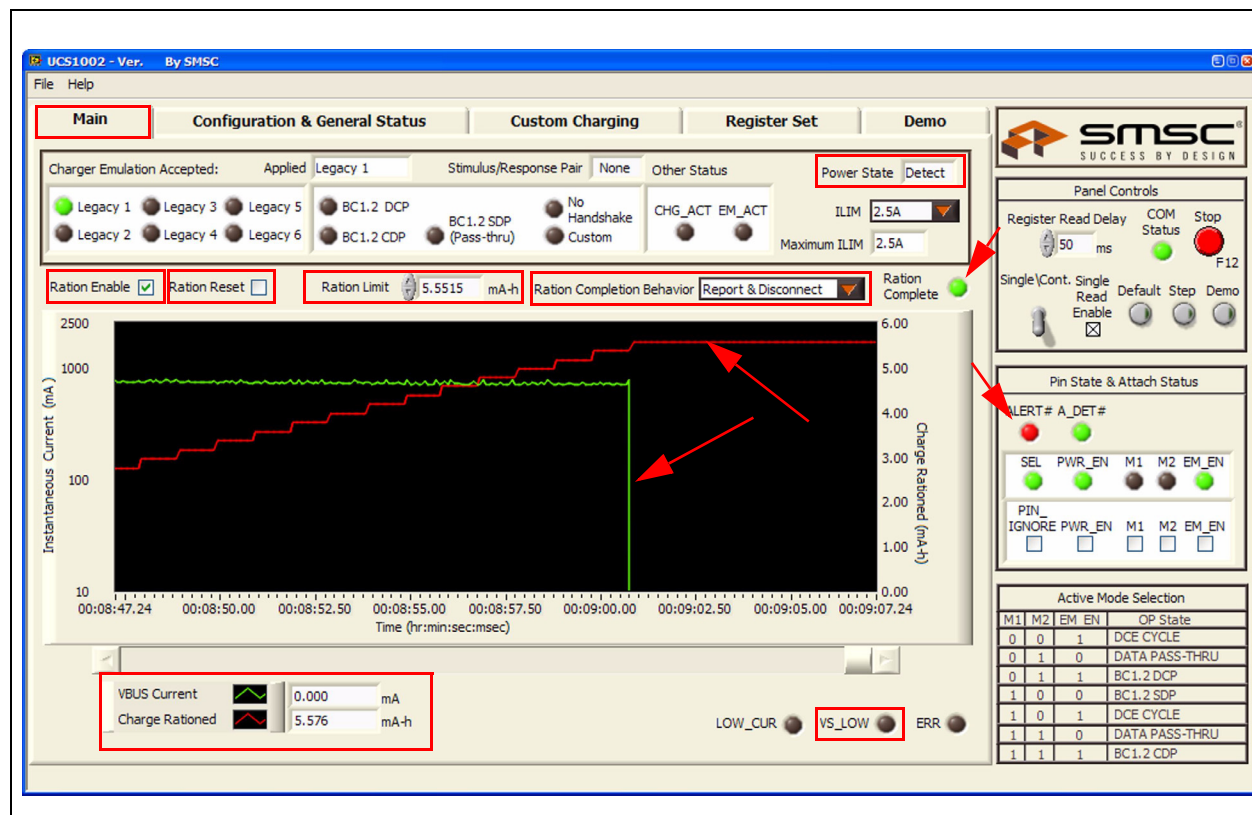

Figure 7.5 Main Tab - Ration Limit Reached
6. Watch the GUI as the device starts charging. Figure 7.5 shows the GUI after the ration limit was reached (in the case of "Report & Disconnect").
Note: As shown in Figure 7.5, the green trace is the instantaneous current and the red diagonal line is the charge being delivered in mA-h. Both are also presented in numeric format in the bottom left boxes. Trace color and characteristics can be change by clicking on the waveform boxes to the left of these numerical values.